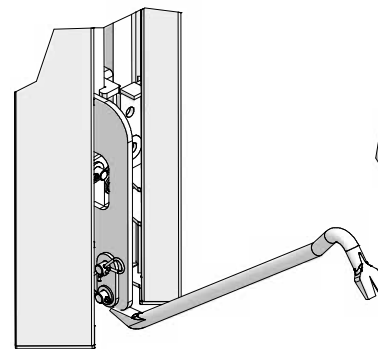
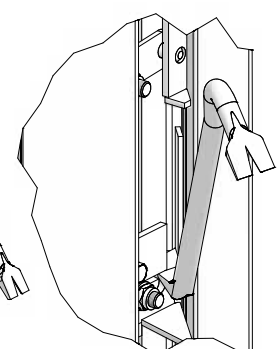

Fig. 35.3
Fig. 35.4
4. Activate the stripping corner with a crowbar. The bell-crank lever is pushed upwards using the crowbar. The crowbar can be applied at the bottom at position A (Fig. 35.3) or in the middle at position B (Fig. 35.4). This breaks the bond between the formwork facing and the concrete without much effort.